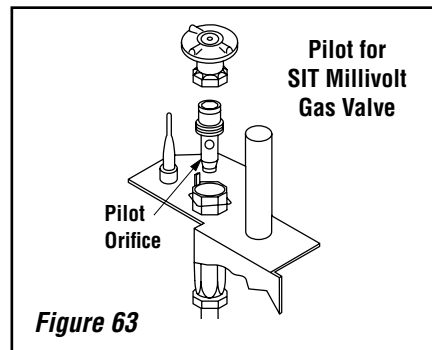

Figure 63
c. Refer to **Figure 63** and remove the pilot hood assembly to access the hexed pilot orifice. Remove and replace the orifice with the one provided with the kit.